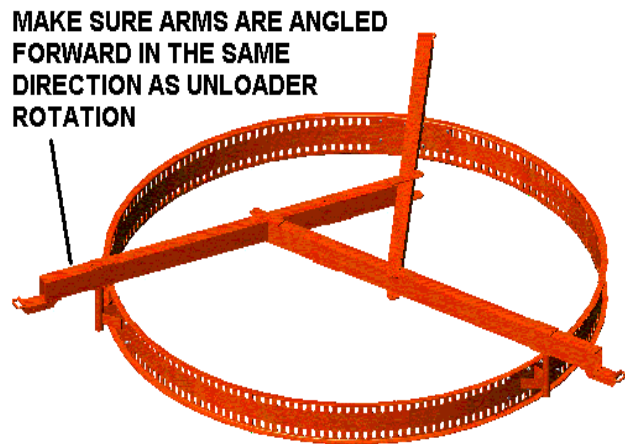

FIGURE 14
Note: If assembling the (3) tri-arms separate from the drive rings, it is possible to assemble them incorrectly such that they will not match the angle of the ring connectors. The arms must angle forward in the same direction the unloader will rotate and as shown on Fig. 14.